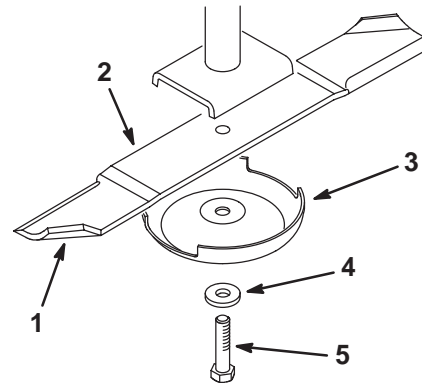

Figure 16
Hold the blade end using a rag or thickly-padded glove. Remove the blade bolt, lock washer, anti-scalp cup and blade from the spindle shaft (Fig. 16).
2. Check the balance of the blade by putting it on a blade balancer (Fig. 18). If the blade stays in a horizontal position, the blade is balanced and can be used. If the blade is not balanced, file some metal off the end of the sail area only (Fig. 16). Repeat this procedure until the blade is balanced.